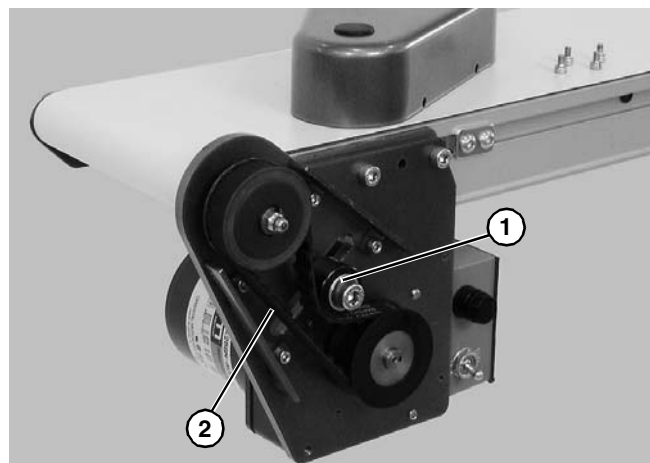

Figure 28
2. Loosen tensioner (**Figure 28, item 1**).
3. Remove timing belt (**Figure 28, item 2**).